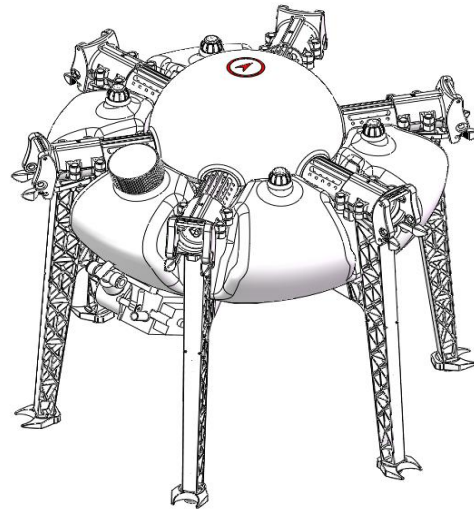

Figure 6
- 5) The rest 5 landing gears should be installed as above. It will be completed like Figure 6.